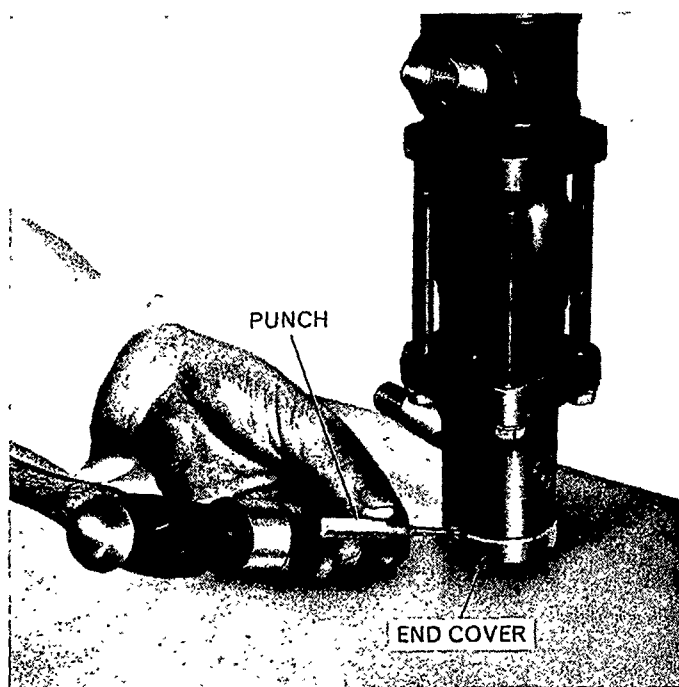

Figure 56
10. Install a new end cap and crimp the forward edge into the recess using a punch as shown in Figure 56. Crimp evenly around the cap to prevent leakage of grease.